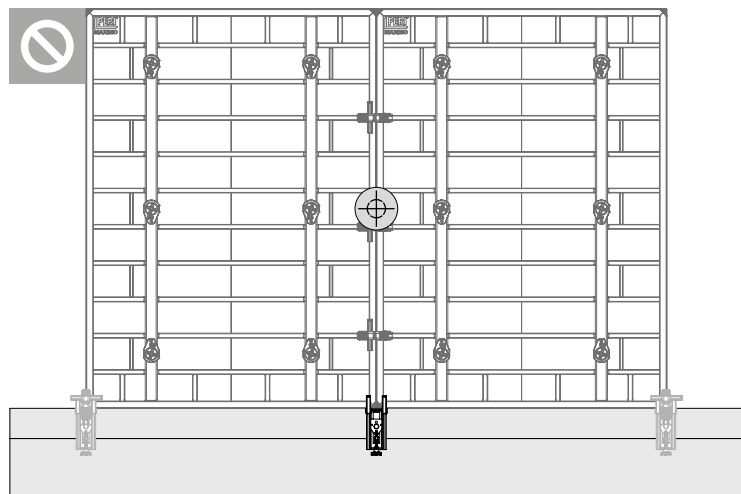

Fig. B1.07
- The joint of two formwork elements must not cover one wall formwork console. (Fig. B1.07)